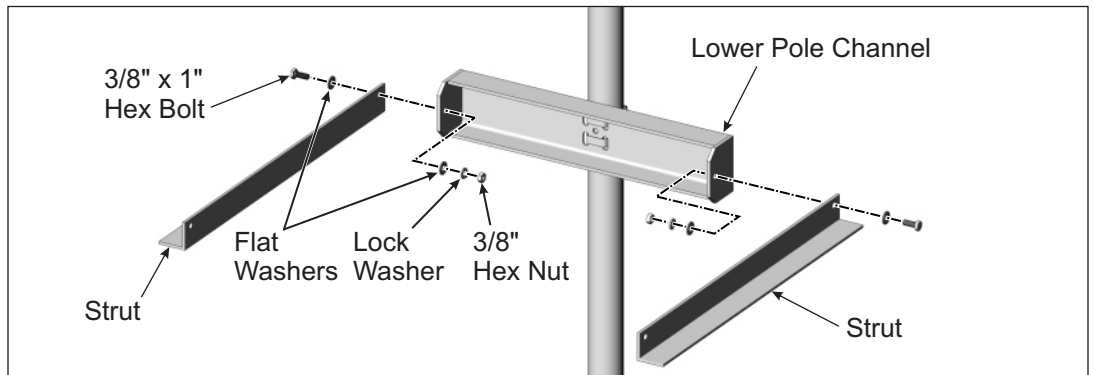

Figure 2-1: Attaching Struts to Pole Channel
The two Struts are attached to the ends of the lower Pole Channel using 3/8" x 1" hex bolts and hardware. (See Figure 2-1)
- A. Orient and align the left Strut as shown in Figure 2-1. Secure with one 3/8" x 1" hex bolt, lock washer, flat washers, and Hex Nut, finger tighten for now.